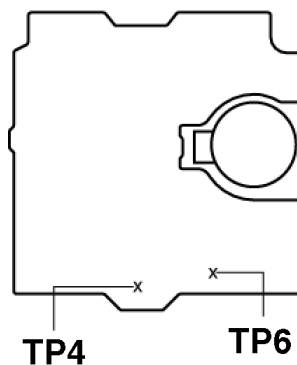
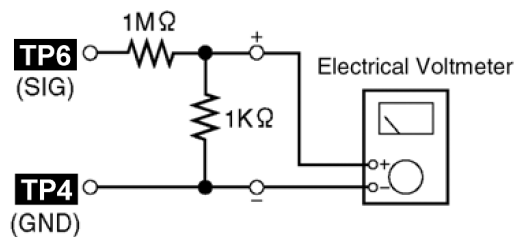

Fig. 9
Fig. 12
1. Connect an electrical voltmeter. (Refer to Fig. 9 for location of test points) (Fig. 12)